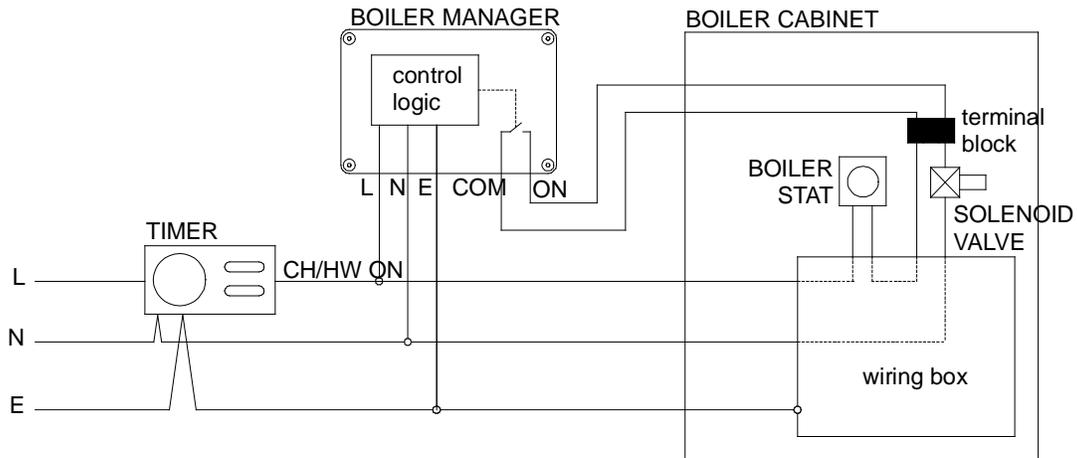

FIGURE 4: WIRING DIAGRAM ('SWITCHED LIVE TO VALVE' CONFIGURATION)
- If the boiler is not powered directly from the timer, or has additional equipment inside the cabinet, the Boiler Manager output contacts must be connected to the solenoid valve feed on the "switched live" side. See the wiring diagram in Figure 4. In the majority of cases this will mean the modification of the internal boiler wiring.